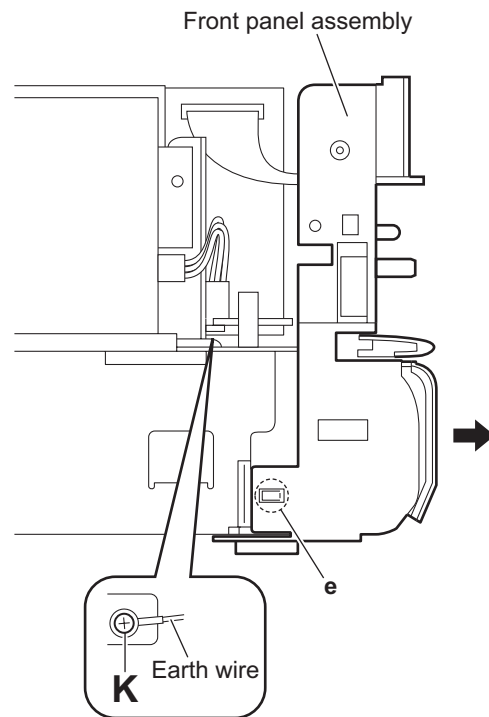

Fig.9
- (5) From the left side of the main body, remove the screw **K** and remove the earth wire. (See Fig.9.)
- When attaching the screw **K**, attach the earth wire with it. (See Fig.9.)